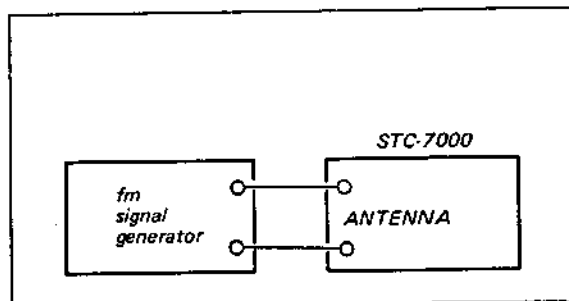

Fig. 3-9. Tuner input meter calibration test setup (Fm)
1. Connect the test equipments as shown in Fig. 3-9.